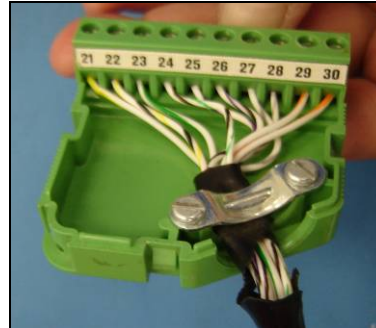

Figure 50: Strain Relief Clamp
- Secure the terminal block wires to the bottom shell with the Strain Relief Clamp and two Flat Head Screws as shown in Figure 50.